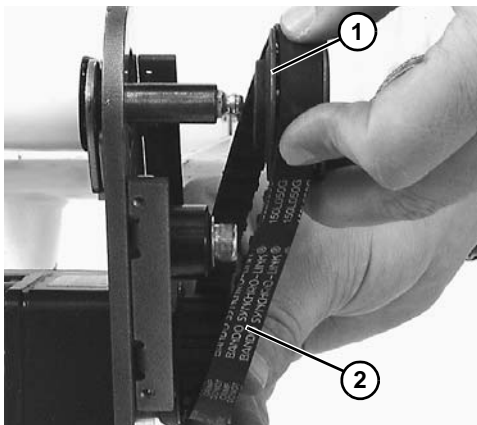

Figure 21
*If drive pulley (Figure 21, item 1) is replaced, wrap timing belt (Figure 21, item 2) around drive pulley and complete step 3.*